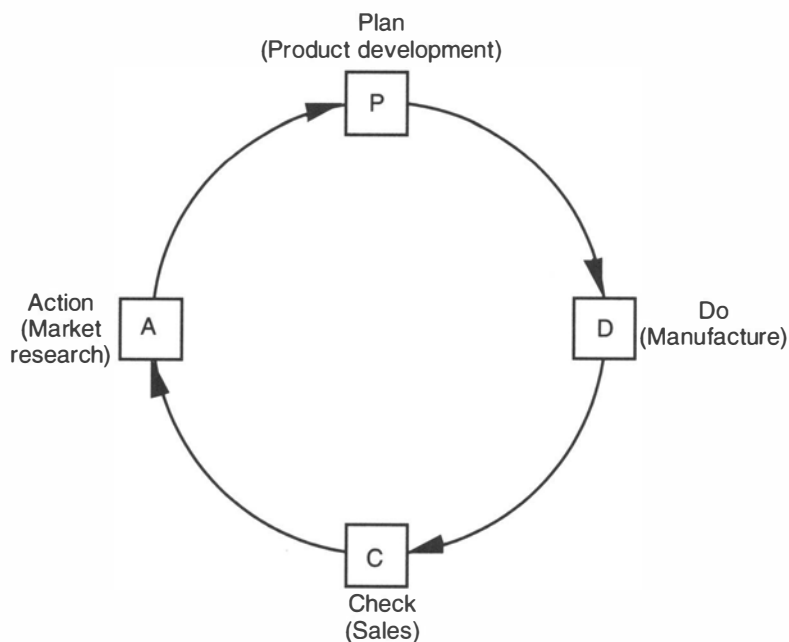

Figure 1 *Deming wheel*
Develop teamwork between the company's various functions, i.e. product development, manufacturing, sales and market research. Use the plan (P), do (D), check (C) and action (A) cycle as shown in Figure 1. Discuss details of each stage of the cycle. The cycle, or wheel, must be constantly rotating.